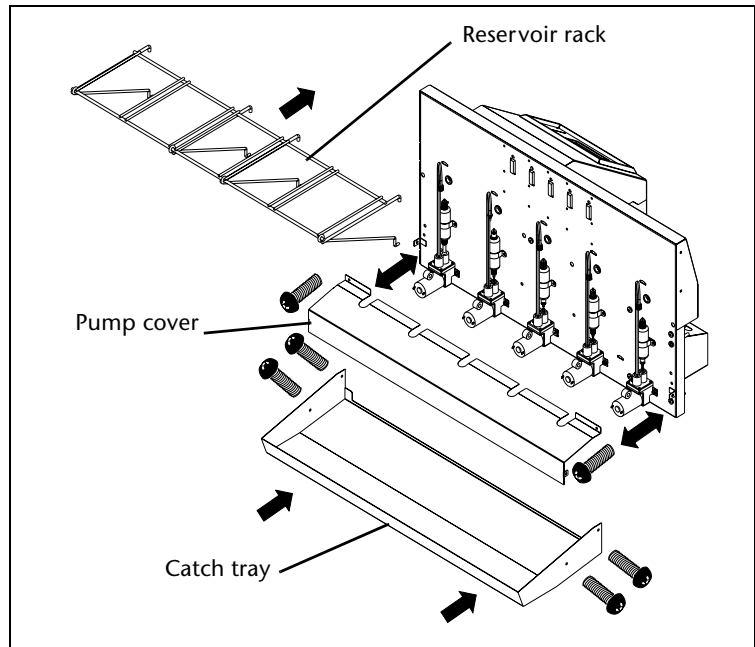

Fig. 1-6. Reservoir wire rack and ink catch tray
25. Remove the pump cover (see Fig. 1-6).
26. Install the reservoir wire rack (see Fig. 1-6).
27. Reinstall the pump cover (see Fig. 1-6).
28. Attach the ink catch tray to the back of the printer with the four #3 screws (see Fig. 1-6).